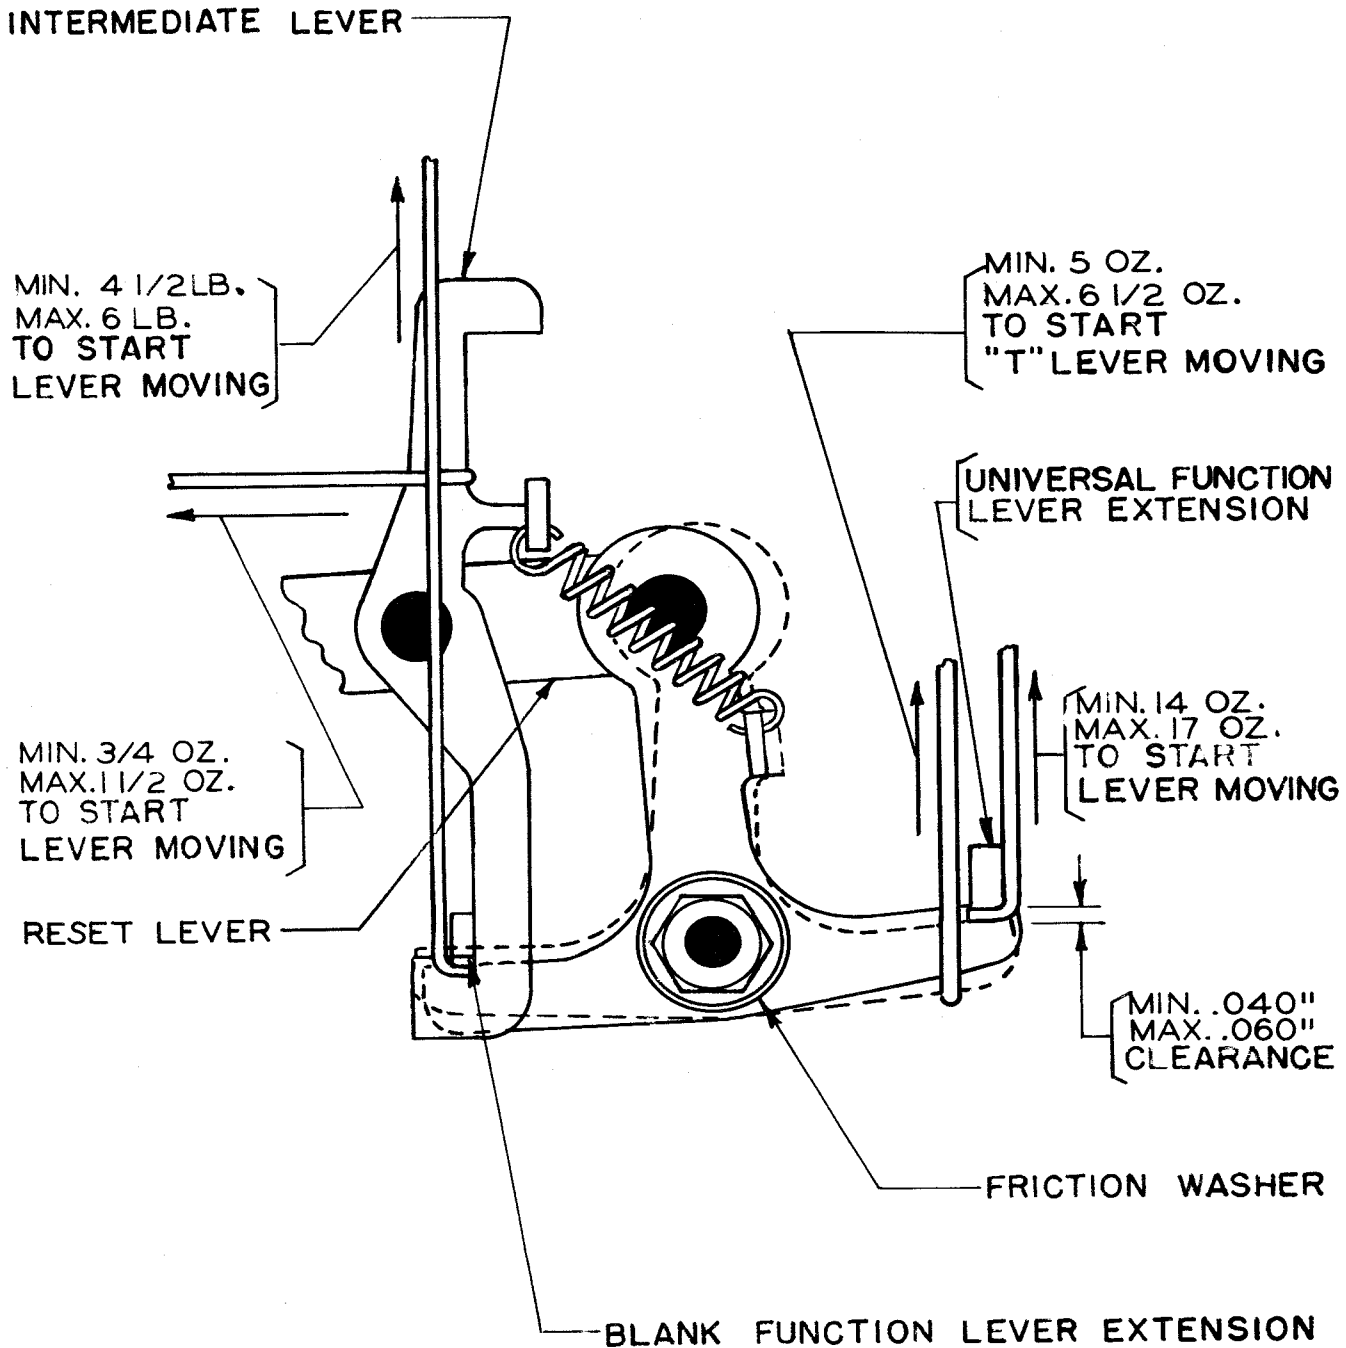

Figure 53
function-lever extension by minimum 0.040 inch, maximum 0.060 inch. See Figure 53.
2.122 Universal-function-lever Spring should have a tension of minimum 14 ounces, maximum 17 ounces when the printing bail is in its extreme rear position. See Figure 53.
2.123 Blank-function-lever Spring should have a tension of minimum 4-1/2 pounds, maximum 6 pounds when the printing bail is in the extreme rear position. See Figure 53.
2.129 Intermediate-lever Spring: It should require a tension of minimum 3/4 ounce, maximum 1-1/2 ounces to start the intermediate-lever moving when the printing bail is in its extreme rear position, the T-lever's right end is in contact with the universal-function-lever extension and the reset lever is held so that its upper edge is horizontal. See Figure 53.